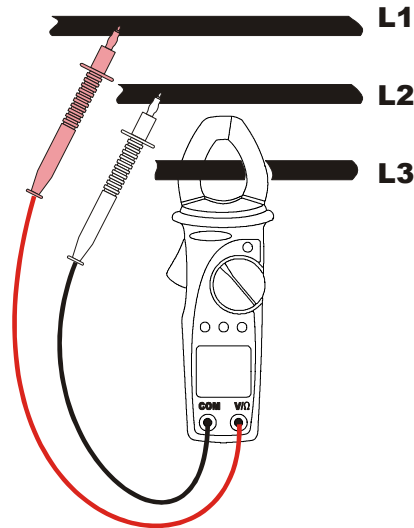

Fig. 13: power and energy measurement on three phase balanced systems
2. Open the jaws and clamp the L3 phase cable. Pay attention to the alignment marks (see paragraph 4.1.2. and Fig. 13).
4. Connect the red test lead to L1 phase conductor and the black test lead to L2 phase conductor (see Fig. 13). The measured active power value and the symbol “**AC**” are displayed.
4. Connect the red test lead to L1 phase conductor and the black test lead to L2 phase conductor (see Fig. 13). The measured active power value and the symbol "**AC**" are displayed.